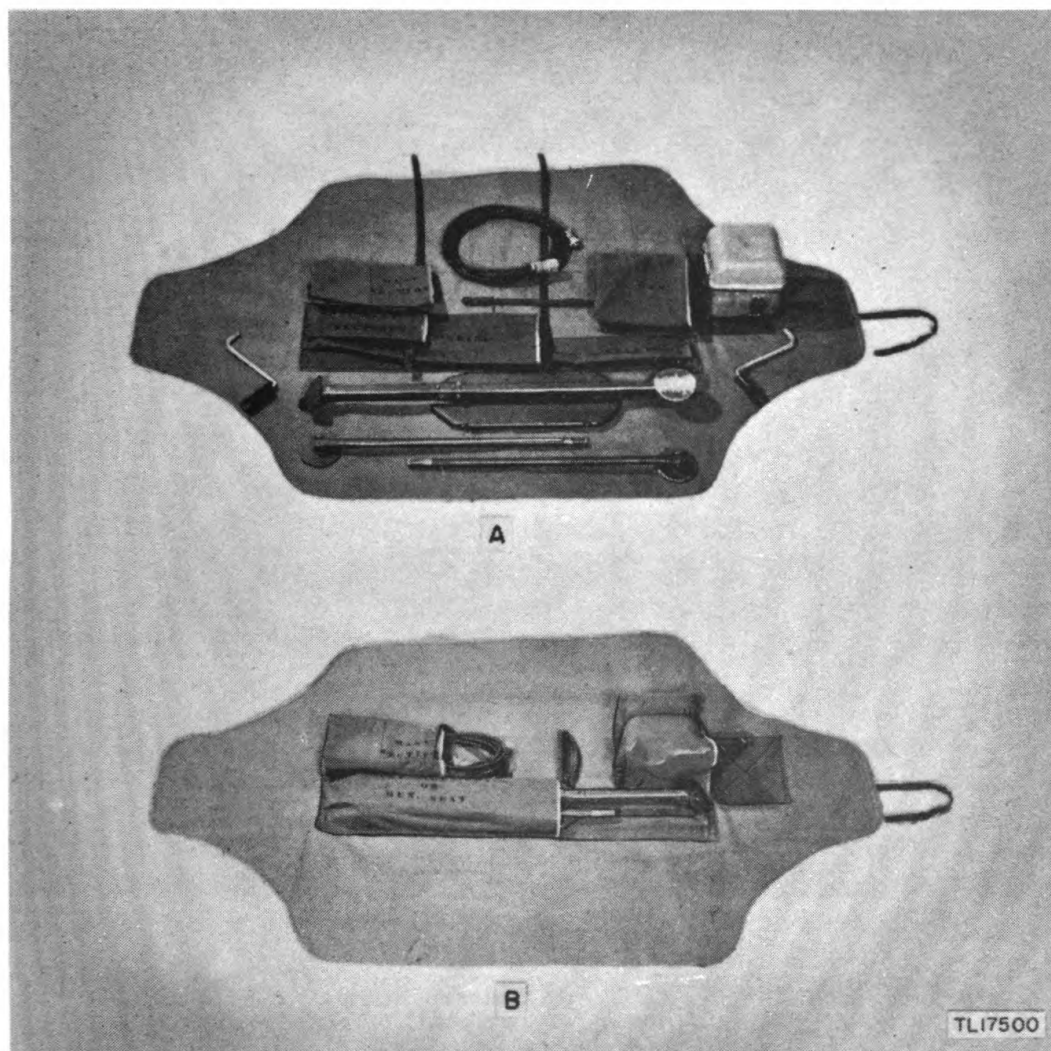
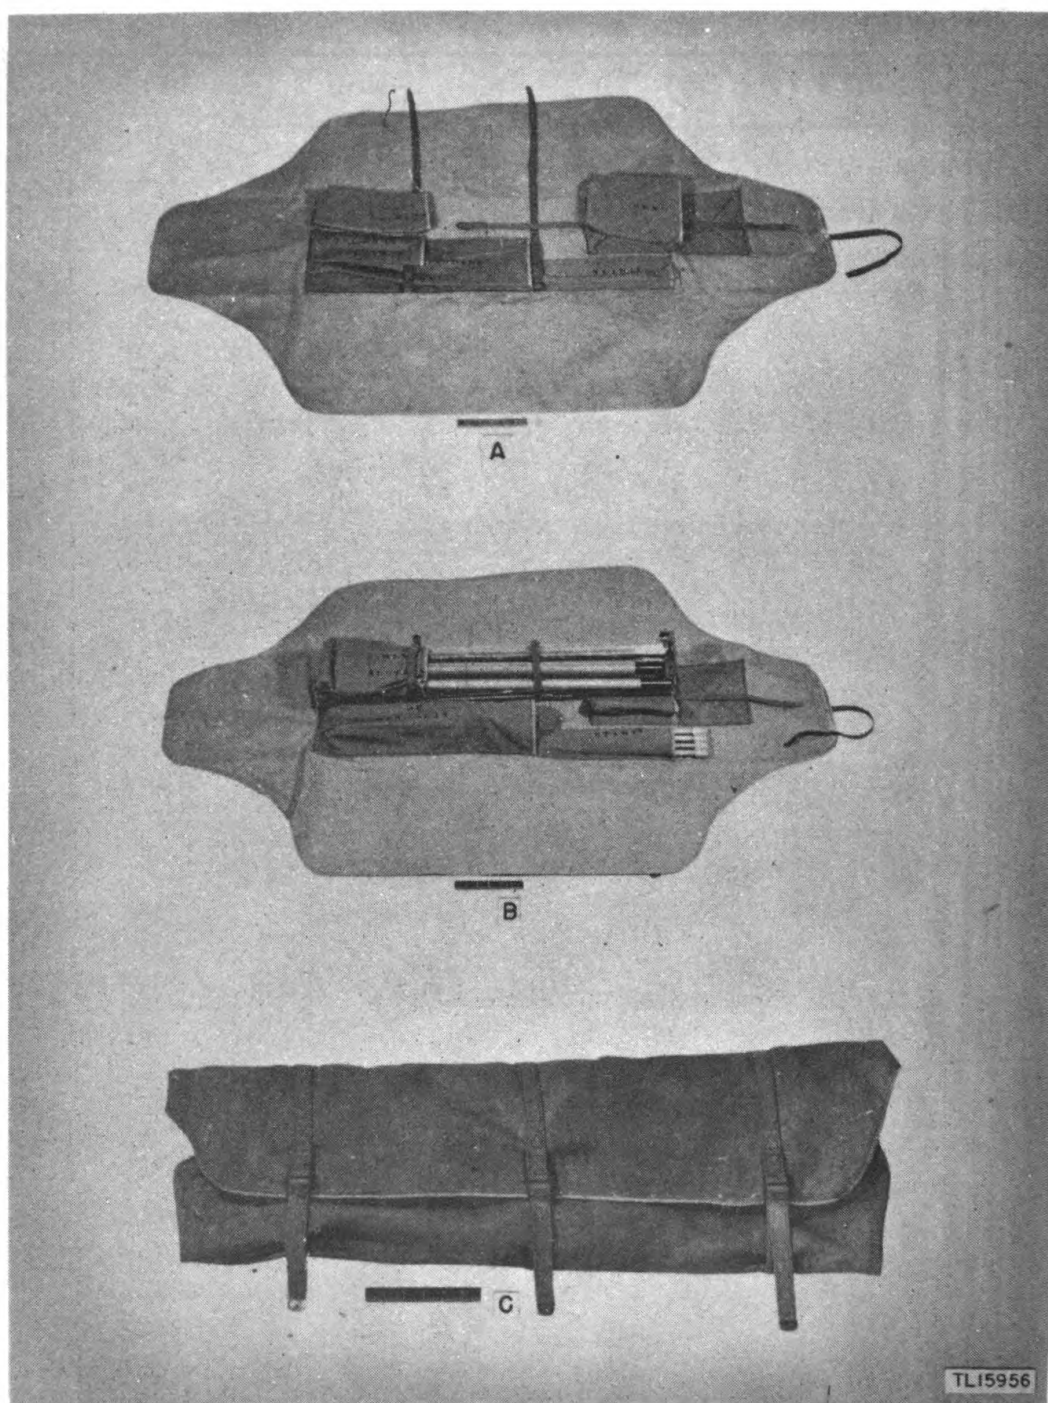

Figure 34. Roll CW-50/TRC-7, with Generator G-3/TRC-7 and accessories.
Figure 35. Roll CW-50/TRC-7, with Antenna Assembly AS-110/TRC-7.
The hand generator and accessories are carried in Roll CW-50/TRC-7 (fig. 34), which is carried by Bag CW-48/TRC-7 (fig. 32). To mount the legs of the generator, proceed as follows:
d. Roll CW-50/TRC-7 (fig. 35-A and -C). Two of these rolls are used: one for the antenna assembly, the other for the generator and accessories.
Roll 1 (fig. 35)	Roll 2 (fig. 34)